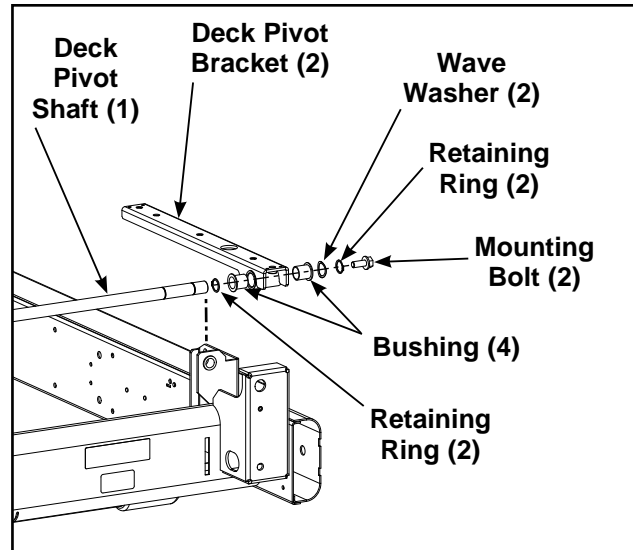

Figure 15
- With the deck pivot shaft out of the unit you can now remove the deck pivot brackets, bushings, wave washer and the retaining rings. See Figure 15.
- B. Using a 9/16" Socket wrench, install the two bolts securing the deck pivot shaft to the frame. See Figure 15. **NOTE:** Make sure the deck pivot brackets are installed correctly.